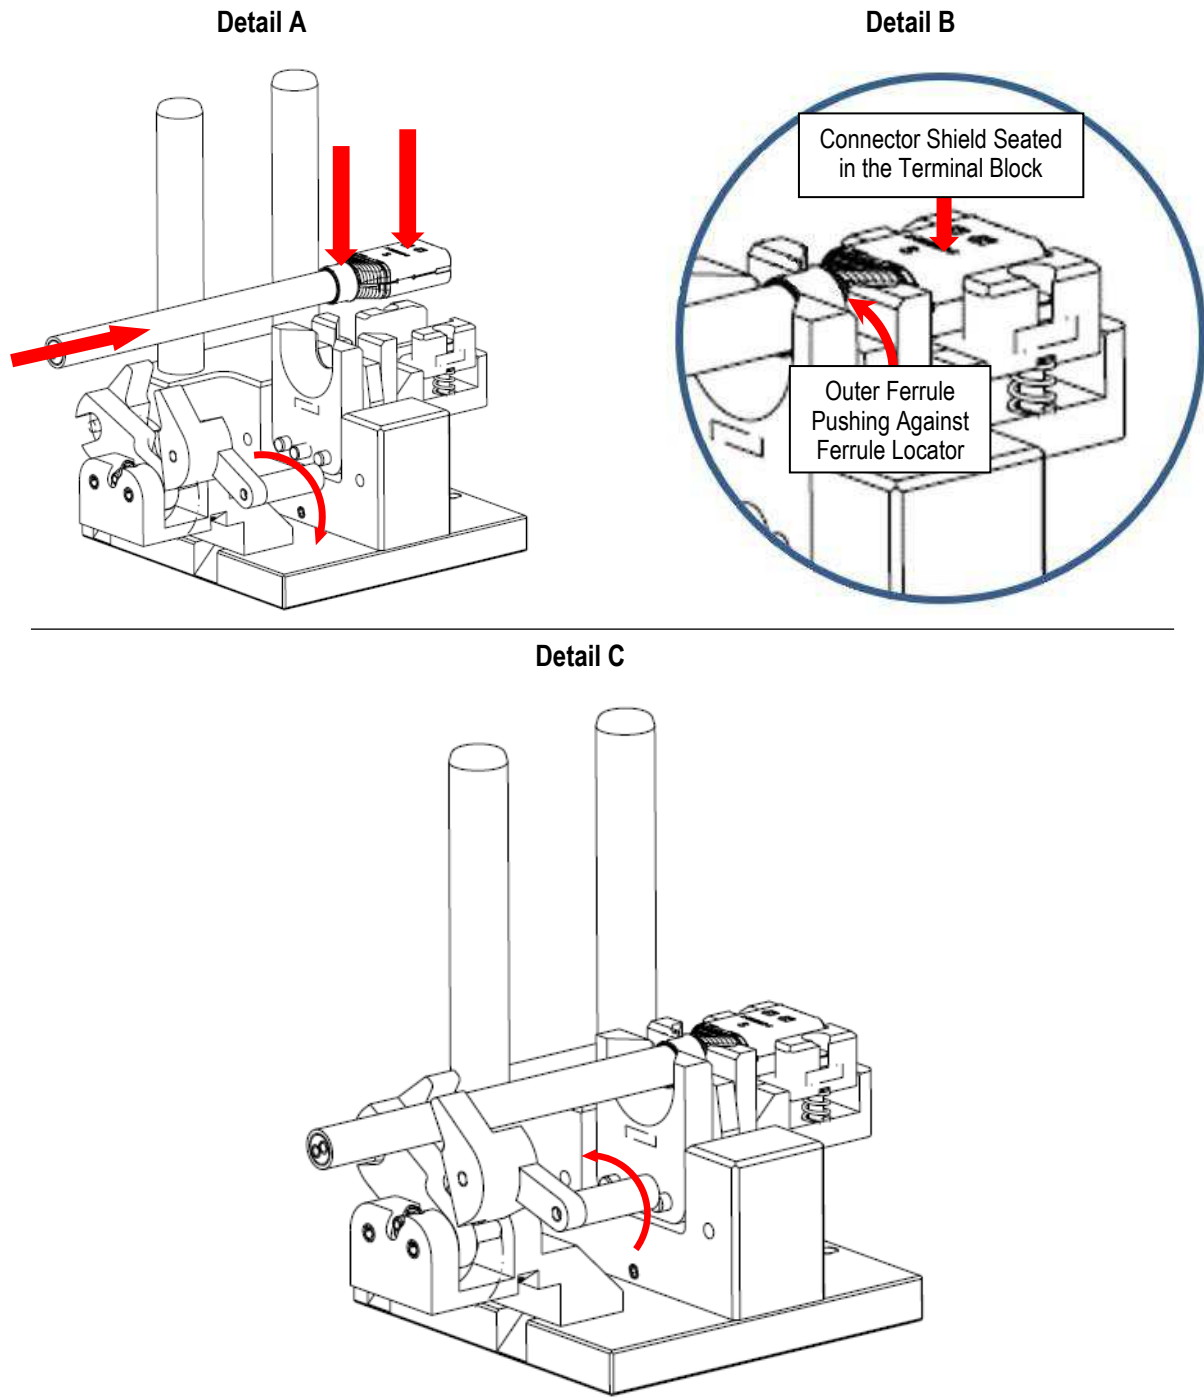

Figure 3
2. Open the wire clamp by pressing down on the lever and position the prepared assembly into the crimping die to accomplish the following (see Figure 3, Detail A and B):
3. Release the lever to clamp the wire in place (see Figure 3, Detail C).